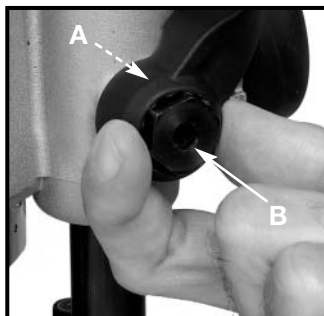
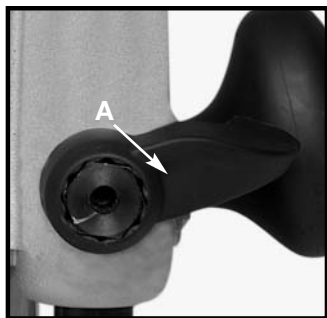
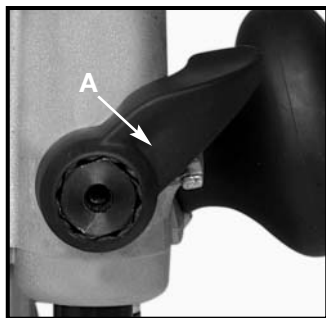
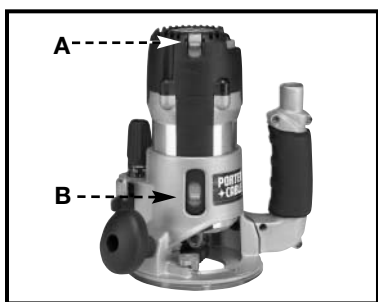

Fig. 16
Fig. 17
Fig. 18
Fig. 19
3. Push in on the plunge locking lever (A) Fig. 16 to expose the head of plunge-locking bolt (B) Fig. 16.
4. While holding plunge-locking lever in (A) Fig. 16, turn plunge-locking bolt (B) Fig. 16 clockwise to turn the plunge-locking bolt in or counterclockwise to turn the plunge-locking bolt out. Turn it one position at a time until proper adjustment is achieved. Proper adjustment is indicated when the plunge-locking lever (A) Figs. 17 and 18 can be locked into the free motion position (Fig. 17), and into the plunge-locked position (Fig. 18).
5. Move plunge locking lever (A) Figs. 17 and 18 halfway between those two positions. Insert the hex wrench through the center of the plunge locking bolt (B) Fig. 17 into adjustment screw. Turn clockwise to tighten.
Two switches (A and B) Fig. 19 turn this tool “ON” and “OFF”. Additionally, the upper switch (A) will automatically turn the tool “OFF” if the tool is placed upside down on a surface.
The lower switch (B) Fig. 19 is convenient for the operator to turn the tool “ON” or “OFF” with the thumb of the left hand while holding the tool (Fig. 16).